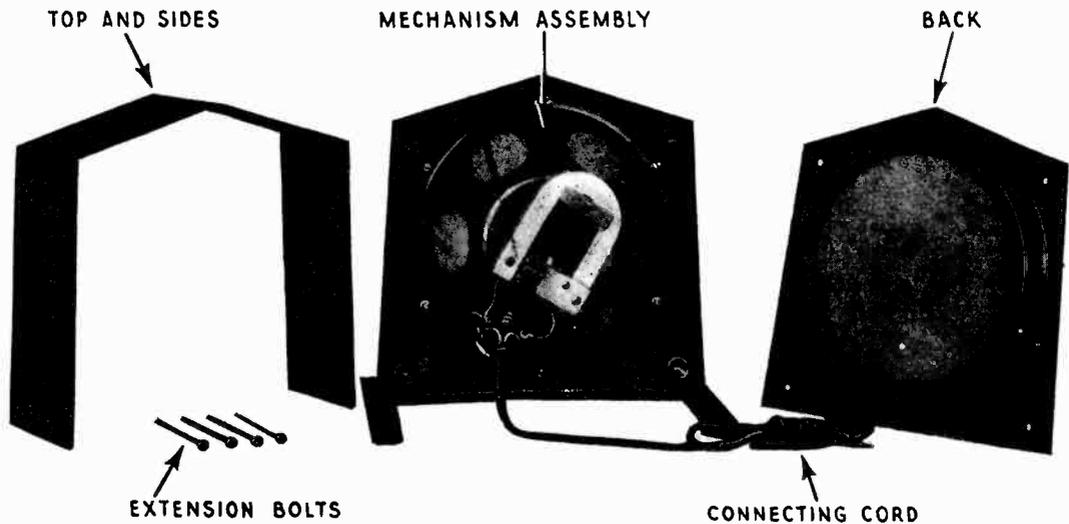

Figure 6—Housing dismantled
- (b) With a screw-driver remove the four screws that hold the housing together. (See Figure 5). The back, top and sides can then be lifted clear leaving the mechanism accessible for any adjustment or repair that is necessary. (See Figure 6).